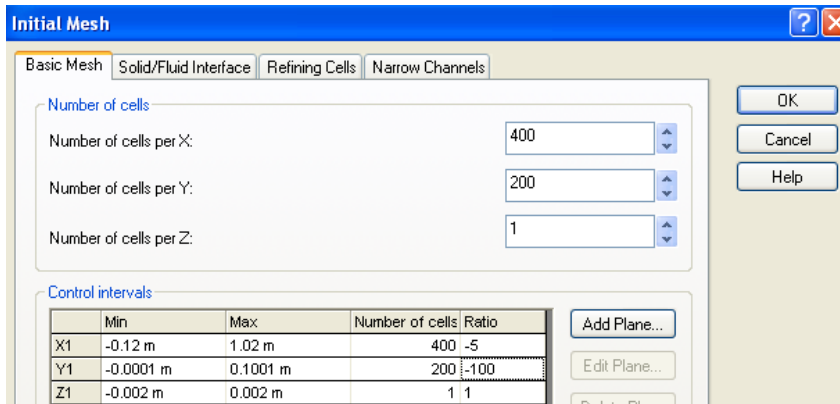

Figure 2.28b) Increasing the number of cells and the distribution of cells
7. Change the distribution of cells using different values of the ratios in the X and Y directions, see figure 2.28b), for the turbulent boundary layer and plot graphs of the boundary layer